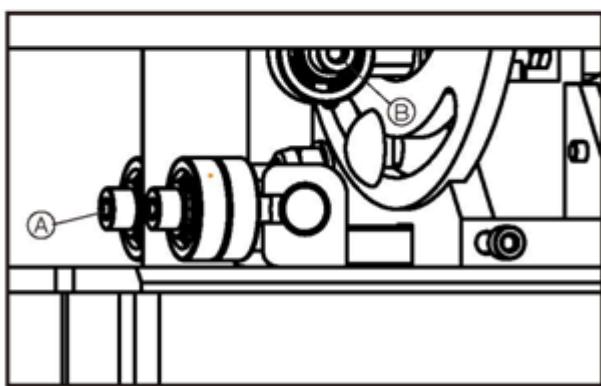

Fig.4.6.2
- To roller bearing should lightly touch the blade, to prevent vibration during operation and ensure correct direction of cutting. The positioning of these rollers is controlled by screw "A"(Fig.4.6.2), once they have been adjusted, tighten the screw "B"(Fig.4.6.2); they should be 2 mm behind the teeth of the blade.The thrust shaft prevents excessive backward movement of the blade whilst in operation , and should be 1-2 mm from the back of the blade: this can be adjusted by screw "B"(Fig.4.6.2).